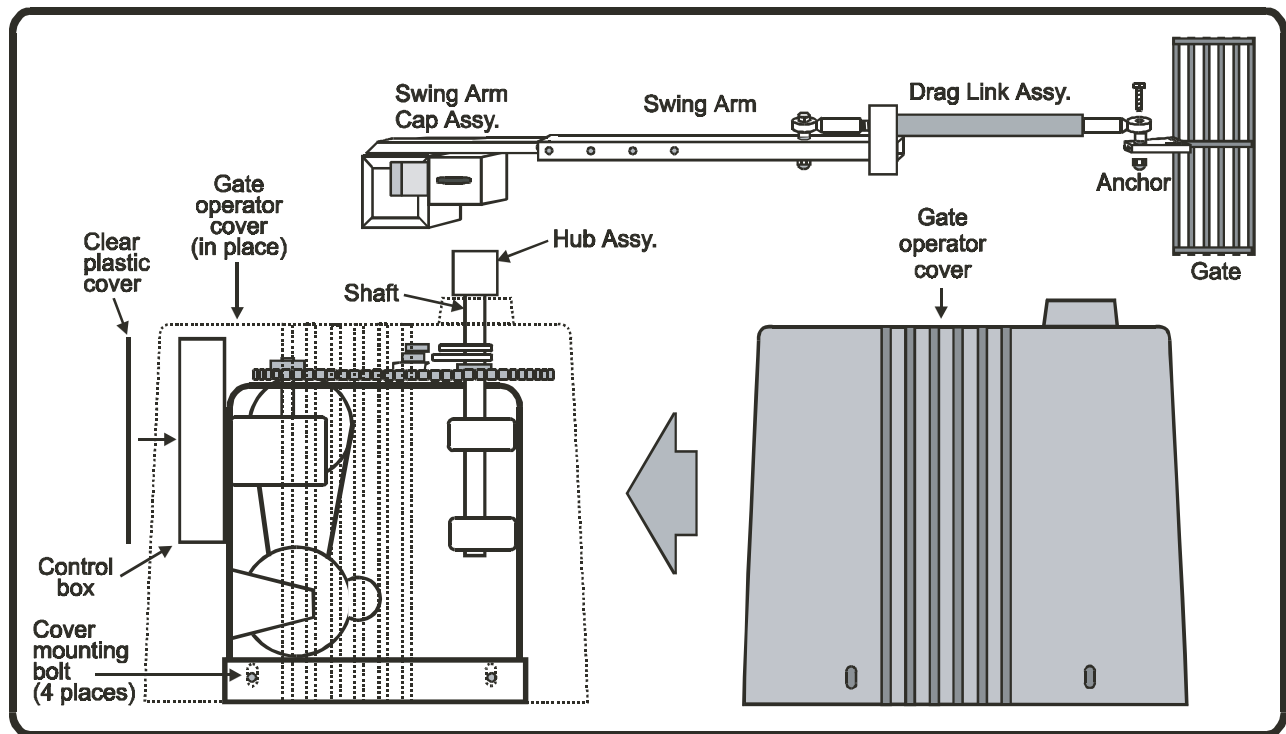

Figure 15. Gate Operator Final Assembly
- Refer to Figure 15, above, to perform the following instructions.